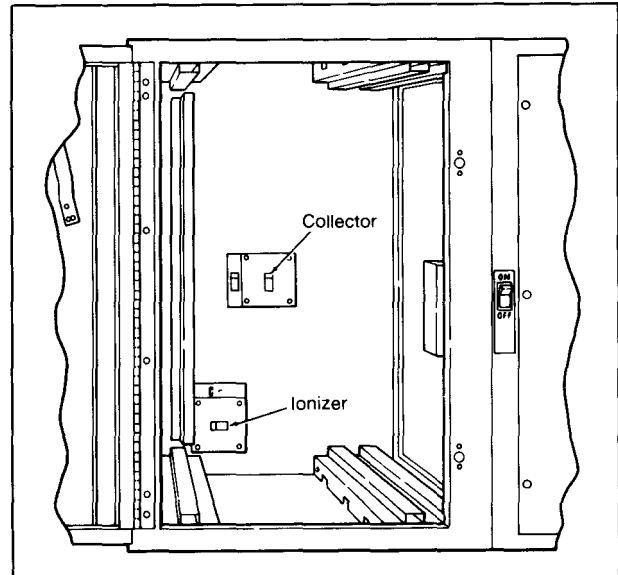

FIGURE 29 - Measuring points for input voltages
- Using a voltmeter, measure the voltage from the collector contact to ground. See Figure 29.